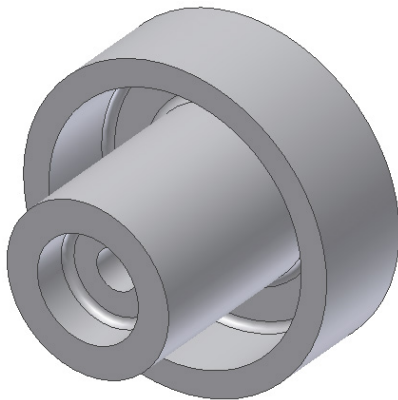
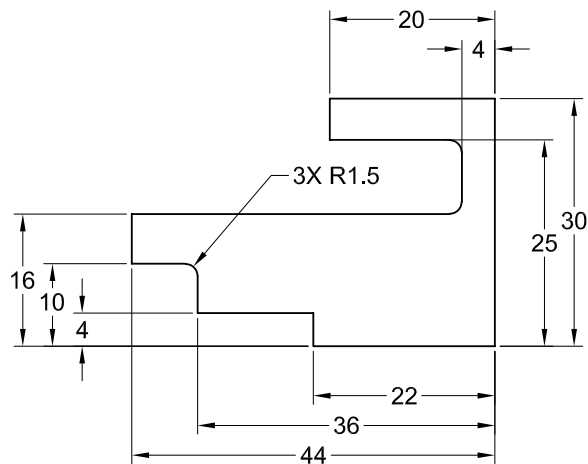

Figure 2-75 Revolved model for Tutorial 4
Figure 2-76 Sketch for the revolved model
In this tutorial, you will draw the basic sketch of the revolved solid model shown in Figure 2-75. The sketch for creating this model is shown in Figure 2-76. Do not dimension the sketch as the dimensions are given only for reference. Use Dynamic Input to draw the feature.
2. Select the line 8 and then line 9, refer to Figure 2-76; a fillet is created between these lines and the radius of the fillet is displayed in the sketch.